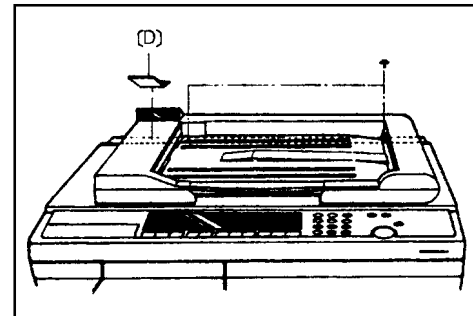

Fig. 2
6. Remove the copier rear cover and the plastic cap with no hole [D] (left rear side). (Fig. 2)